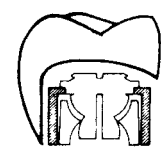

Fig. 21
11. Grind out an acrylic tooth to fit over the attachment (Fig. 21).